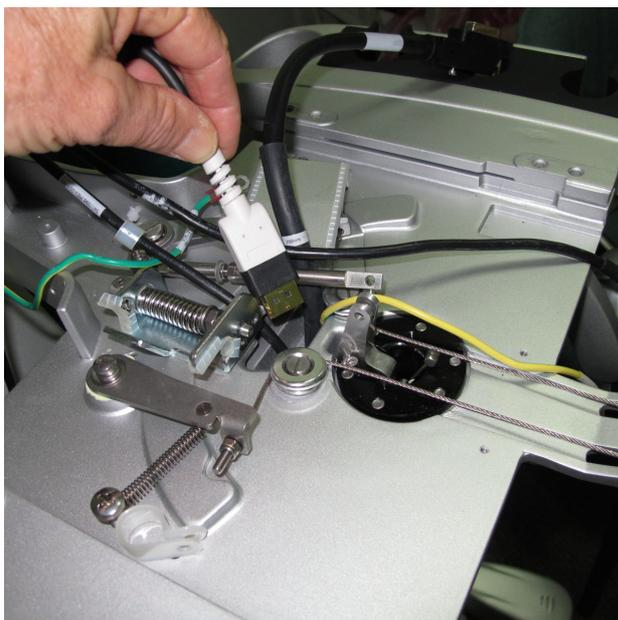

Figure 8-125 White OPIO to BIF Cable
5.) Thread the white OPIO to BIF cable through the OPIO platform aperture a in Figure 8-125 below.